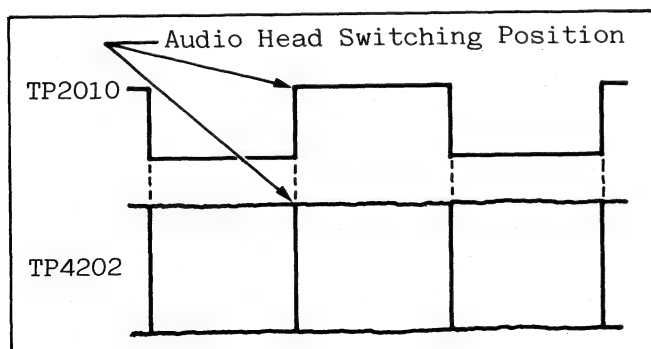
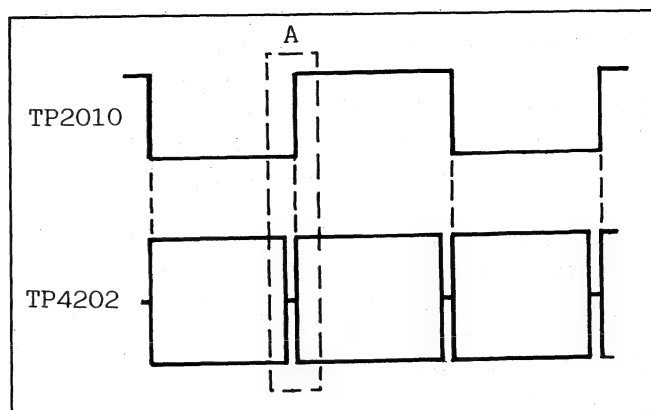

Fig. E8-2
Fig. E8-3
6. Playback the portion just recorded and confirm that the envelope at TP4202 is as shown in Fig. E8-2.
7. If the envelope has the Drop Out (A-portion in Fig. E8-3), adjust the AUDIO HEAD SW. (R2042) so that the audio envelope has no drop out portion as shown in Fig. E8-2.